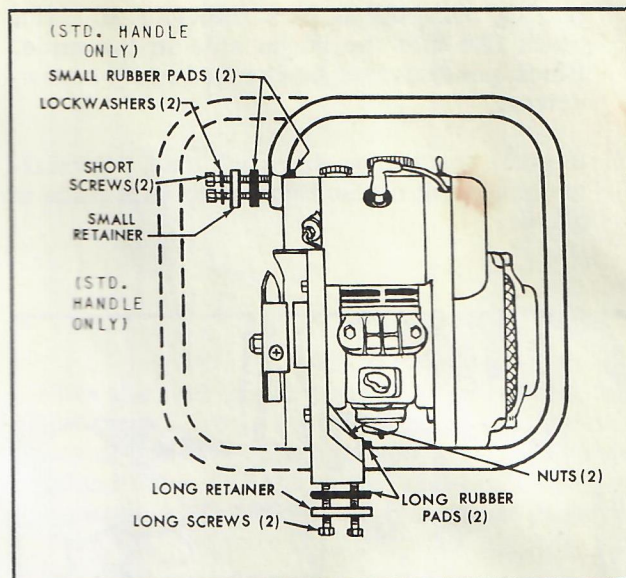

Figure 3. Assembling Handle to Engine
1. Slip the long screws through the long retainer so the formed portion fits around the handle tubing. (See figure 3).